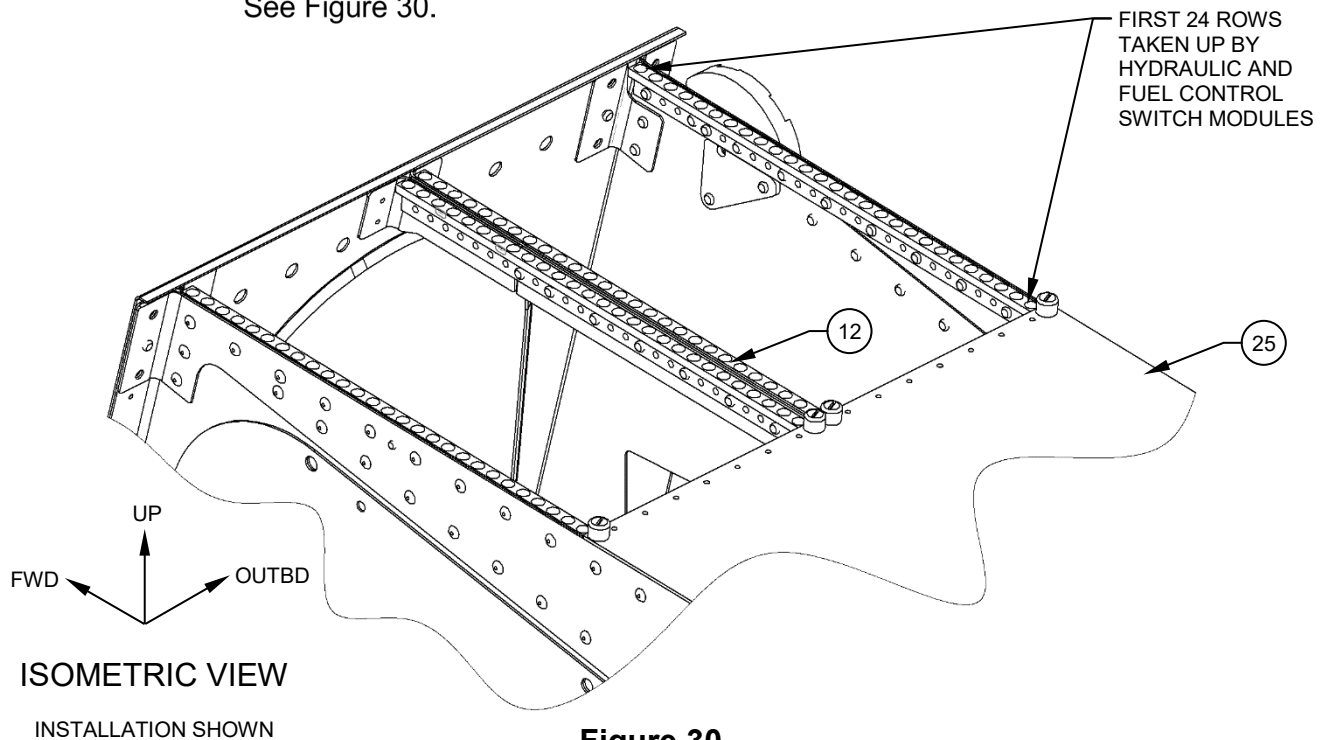

Figure 30
- 6.4.1. The first thing to consider is that the fuel and hydraulic switch control modules take up the first 24 rows of possible Dzus fasteners on the FWD RHS of the pedestal. This makes the first transition from rack mount to panel possible at row 25 or AFT. See Figure 30.
- 6.4.2. For this sample configuration the assumption being made is all avionics directly AFT of the of the fuel control switch module will be of the panel mount style, to the AFT end of the Center Pedestal Riser, Kit. See Figure 30.
- 6.4.3. Temporarily install the Center Dzus Rail, Assy, (Item 12), with 2X Filler, Detail, (Item 41), and the Panel Mount Plate, Assy, (Item 25). Remove and trim the Center Dzus Rail, Assy, (Item 12), after the 25th hole, leaving the edge distance shown. See Figures 30 & 31.